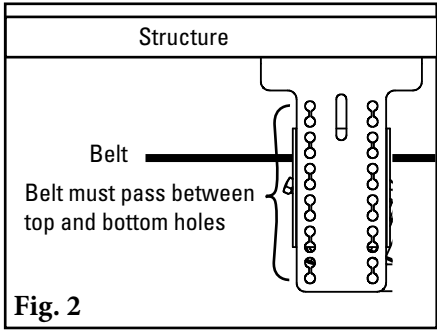

Fig. 2
- 2. Position mounting brackets.** May be mounted to existing idler bracket mounts OR to outside of structure, if structure width is belt width +450mm or less. Be sure belt passes between top and bottom mounting holes (Fig 2).